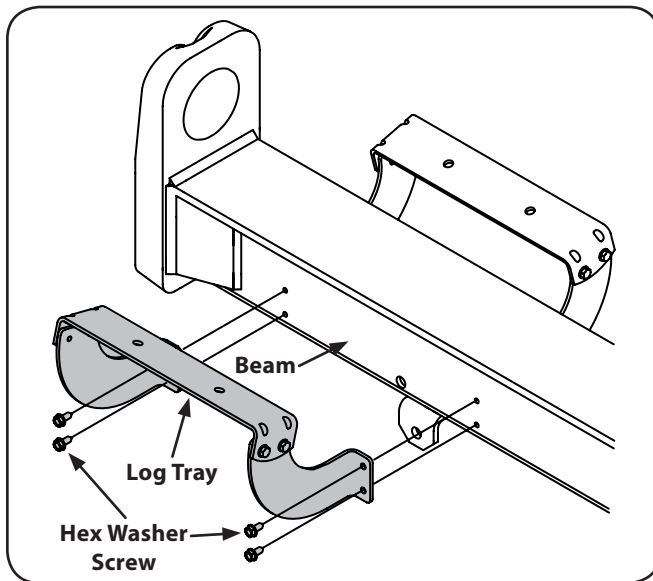

Figure 3-7
- Reattach the log tray to the control valve side of the beam, aligning the holes in the tray with the holes in the beam and re-installing the hardware removed in step 15. See Figure 3-7.